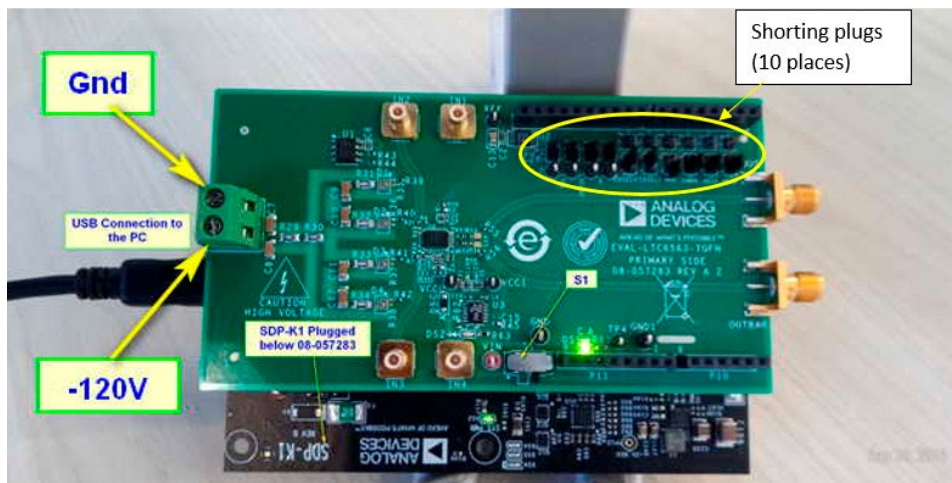

Figure 4. SDP-K1 Connection (WARNING: HIGH VOLTAGE PRESENT!)
3. Plug the SDP-K1 onto the bottom of EVAL-LTC6563-TQFN as shown in Figure 4 (if not already).
- a. Move EVAL-LTC6563-TQFN S1 switch to the right (towards connector P11, see Figure 4) to power the EVAL board using the SDP-K1 if not already.
7. Apply the external -120V DC power supply to P7 (pin 2) with pin 1 tied to power supply ground. This is the appropriate bias voltage for the APDs installed on the board. The connector and passives are rated up to 300V . See Figure 4 for the proper P7 high voltage polarity connection.
2. Apply the external -120V DC power supply to P7 (pin 2) with pin 1 tied to power supply ground. This is the appropriate bias voltage for the APDs installed on the board. The connector and passives are rated up to 300V. See Figure 4 for the proper P7 high voltage polarity connection.